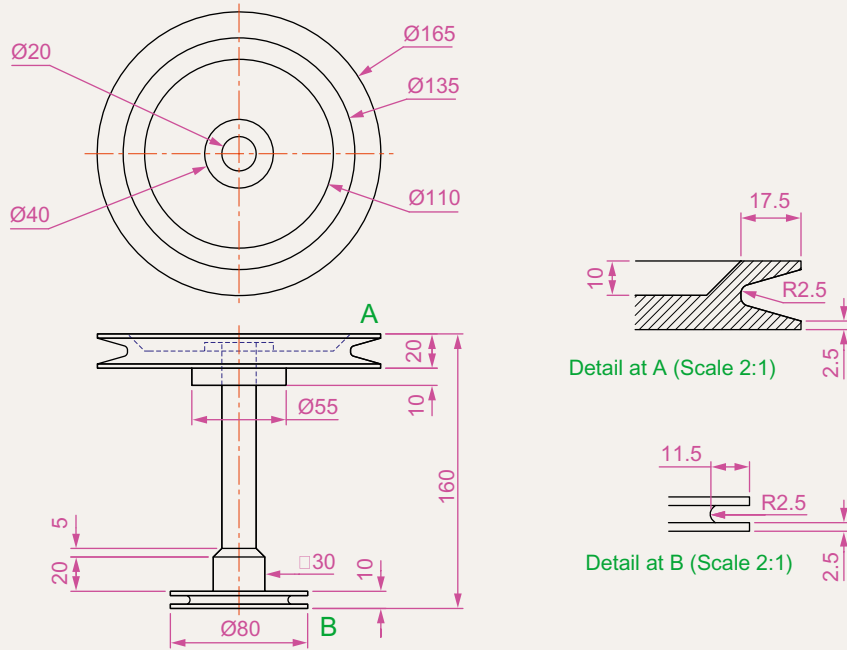

Fig. 12.51 Exercise 8
8. Working to the details given in the orthographic projection (Fig. 12.51), construct a 3D model of the assembly. After